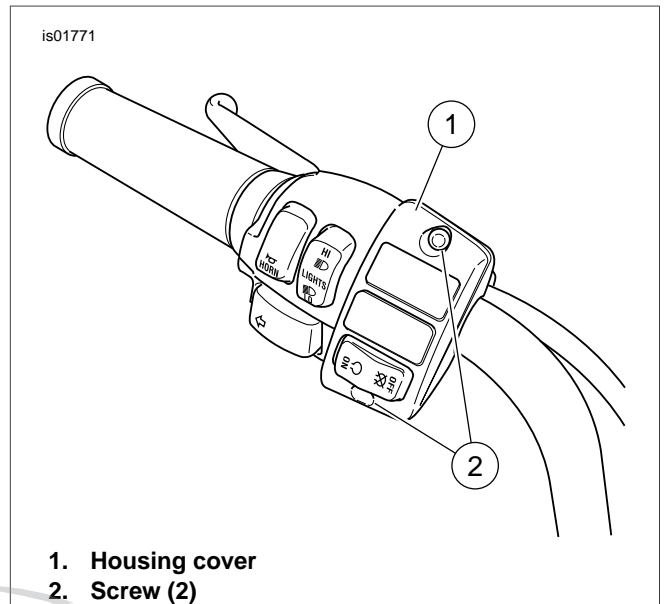

Figure 6. Install Housing Cover
9. See Figure 6. Install the housing cover (1) using two button-head screws (2). Using a T-25 TORX driver, tighten screws to 35-45 in-lbs (4-5 Nm).